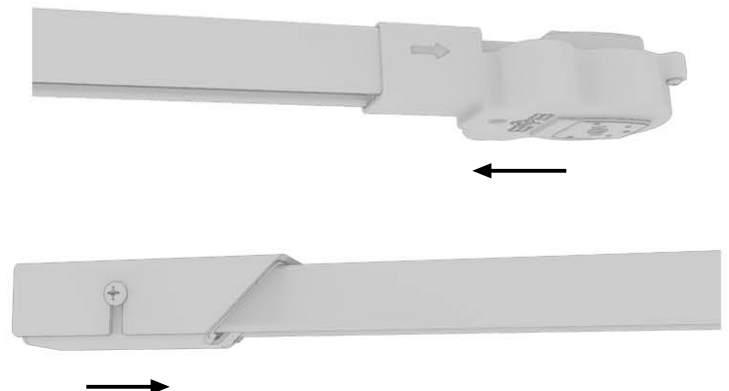

Fig. 2
**IMPORTANT:** The rolling trucks and Motor Gearbox each have an arrow on them. Install the trucks so that the arrows on each truck and the arrow on the Motor Gearbox cover point in the same direction (See Fig. 2).